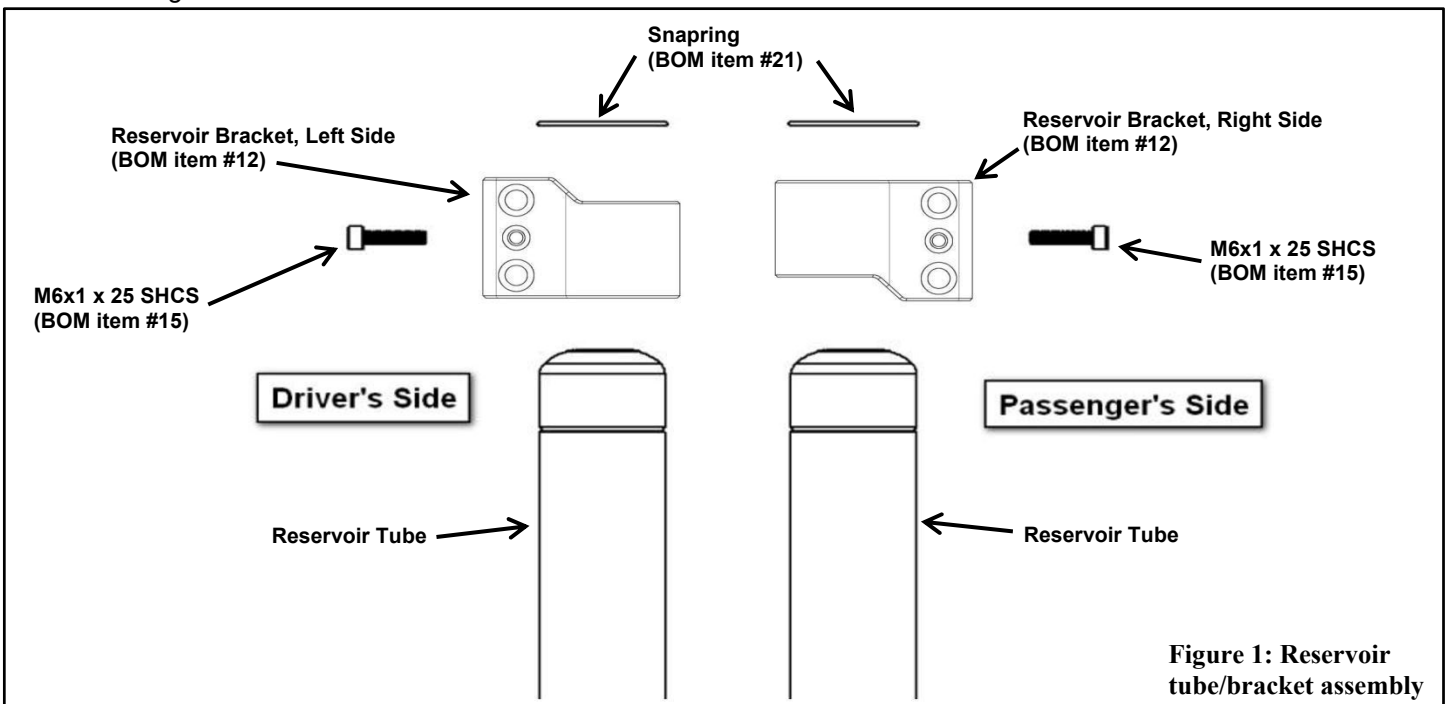

Figure 1: Reservoir tube/bracket assembly
- B. Find the Reservoir Bracket and appropriate hardware shown in Figure 1 below.
- o **Note:** The Reservoir Bracket orientation is different for the Left (Driver) and Right (Passenger) side. Refer to Figure 1 below.